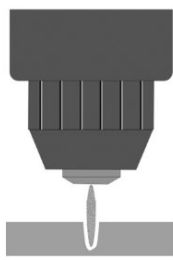

Fig. 10
3. Torch height too high. Excessive bevel, plasma stream may not cut all the way through the material (Fig. 10).